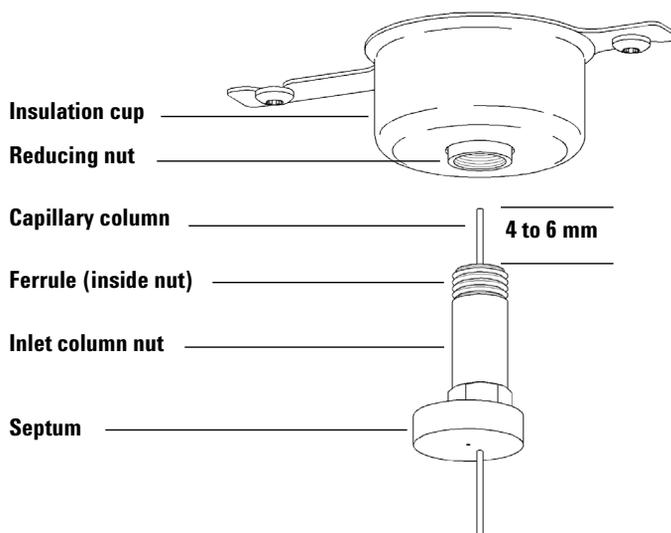

Figure 4 Installing a capillary column for a split/splitless inlet
- 7 Position the column so it extends 4 to 6 mm past the end of the ferrule (Figure 4).